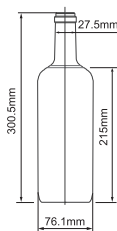

Fig. 1
- The capacity for bottle storage in the wine cabinet (Fig.2) is based on the following marked bottle size (Fig.1) . Oversized bottle may have impact on the number of bottle storage in the wine cabinet.